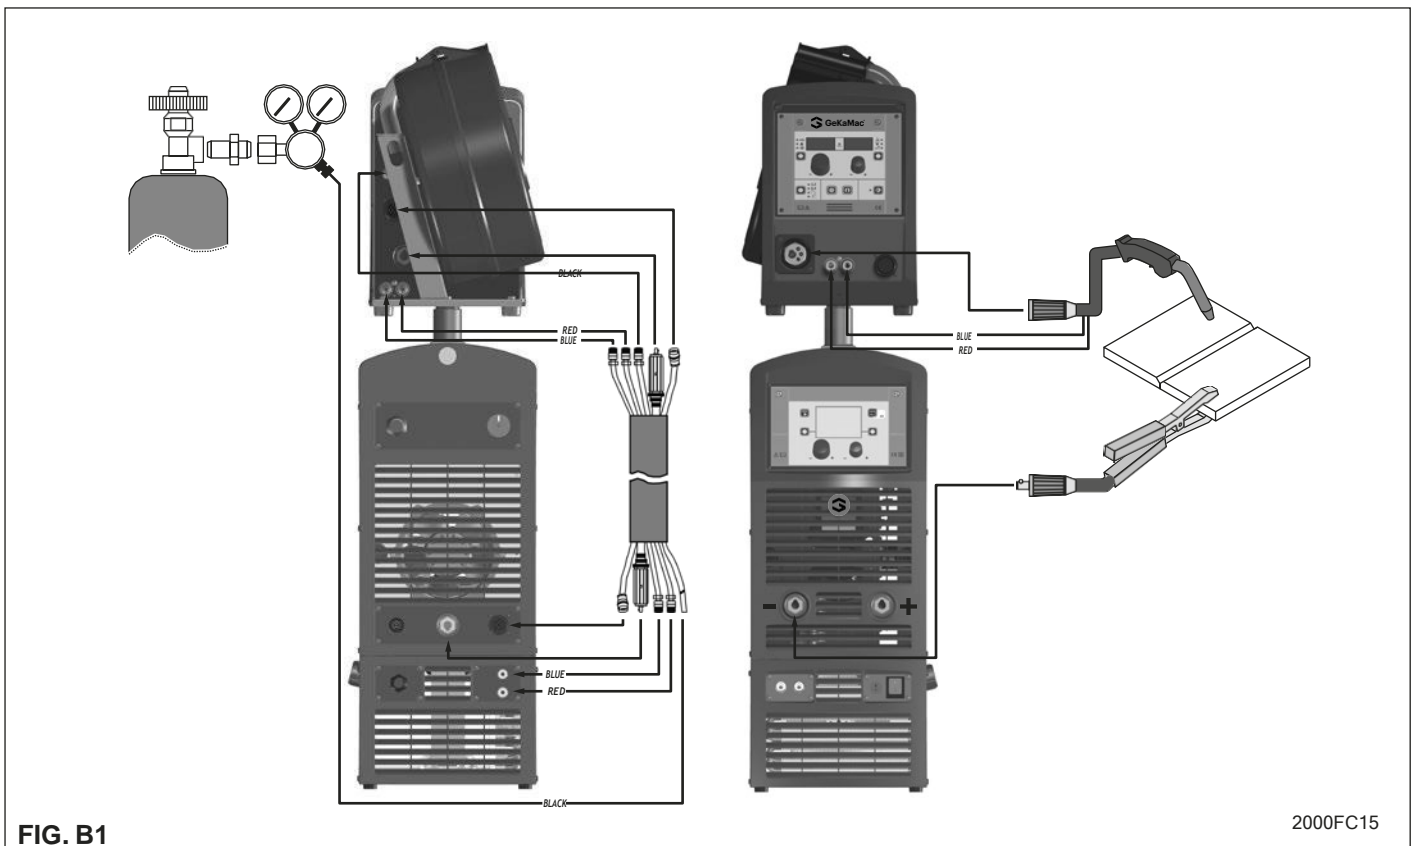

FIG. B1
**1 - Connecting the gas hose and torch (Fig. B1-B2)**
**2A - Connecting the cables - Welding with a POSITIVE POLE TORCH (Fig. B1)**
Connect up the interconnection cables (power cable, ancillary wiring and gas tube) to the special attachments and couplings shown in Fig. B1.